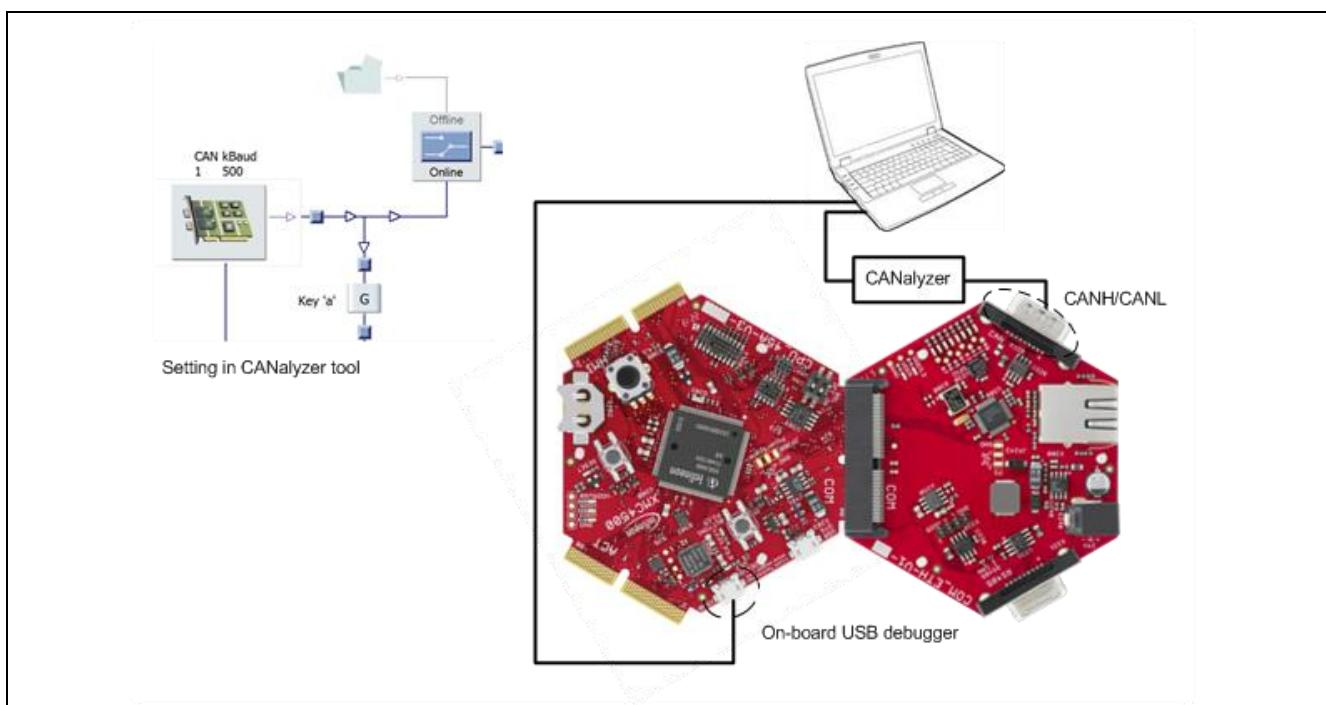

Figure 16 Running the baudrate detection example
- All hardware should be connected as in Figure 16.